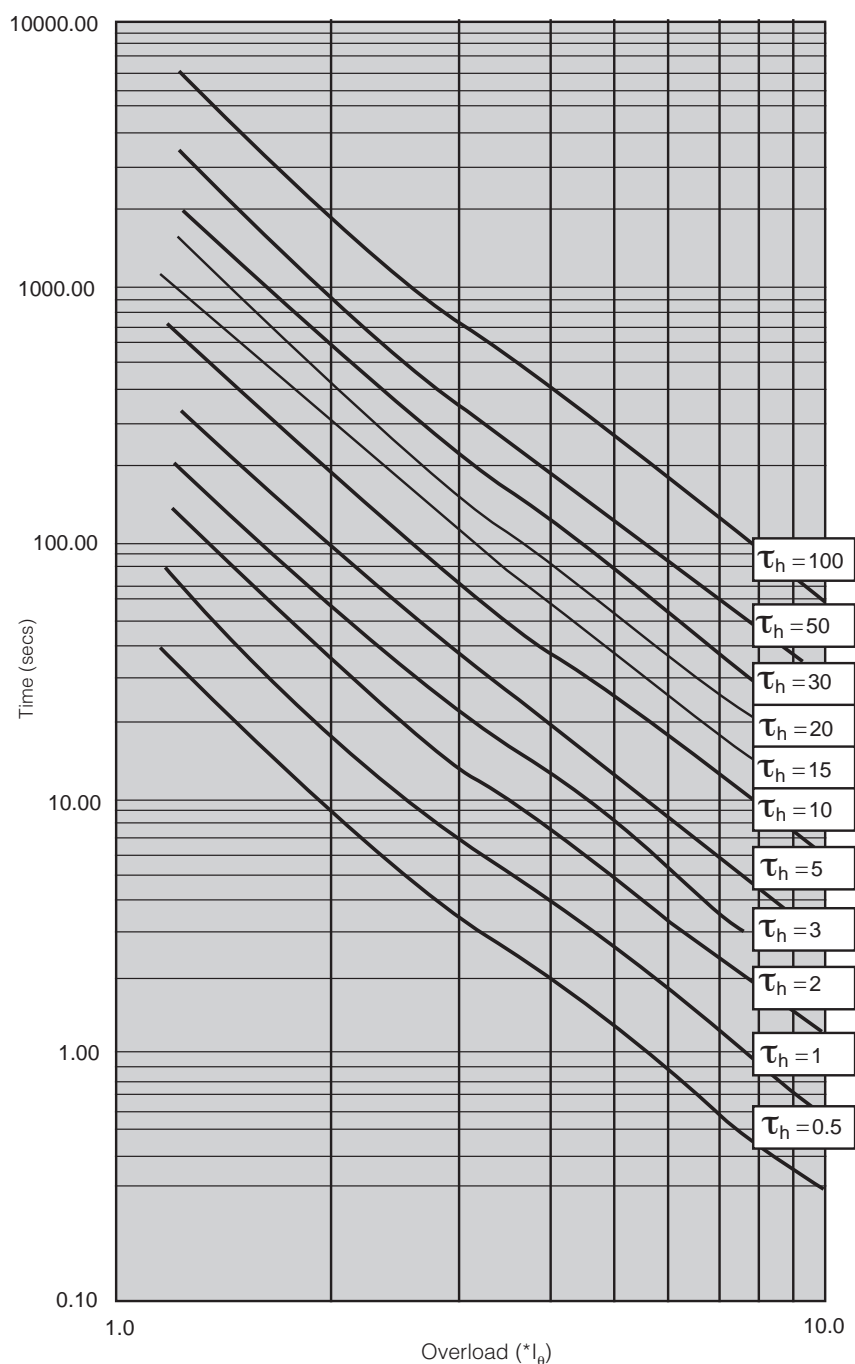

Figure 1 - Thermal overload (cold) characteristics
The relay heating time constant  $\tau_h$  is settable from 0.5 to 100 minutes in 0.5 steps, figure 1 shows the family of curves. Using the example of the motor parameters quoted under item 2 above and reading values from Figure 1:-
At a locked rotor current of 5 x FLC (which is about the starting current) and a run-up time of 4 seconds and allowing two consecutive starts ie 8 seconds total run-up time, the  $\tau_h$  value from figure 1 is just over 3 minutes. As the safe stall time from cold is 11 seconds, the  $\tau_h$  value could be set to 5. The stall time from hot, ie 7 secs gives a  $\tau_h$  value of 3. If this lower value of 3 is chosen, there is the possibility of nuisance tripping after the motor has been in service for some time with longer run-up times and higher currents. It would be better to select the value of 5 which allows two starts in quick succession. Of course, if the actual  $\tau_h$  heating time constant of the motor is given by the manufacturer, then this figure could be set on the relay.